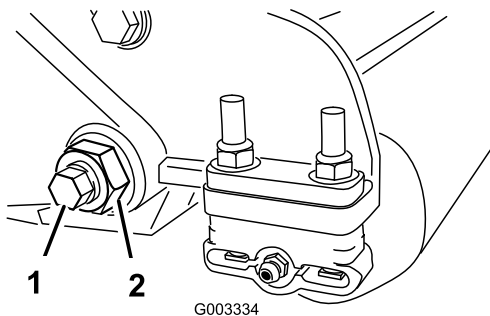
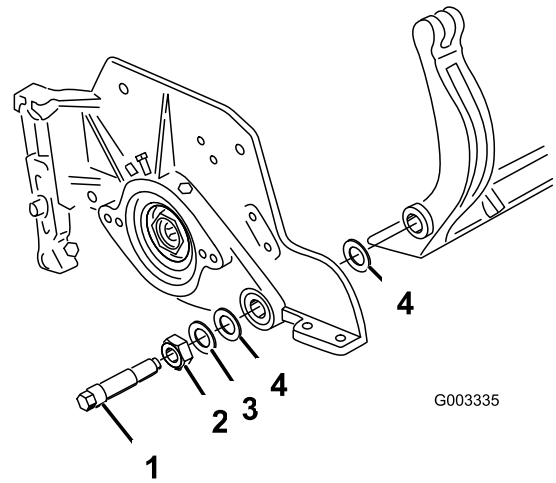

Figure 32
Figure 33
- On each side of the machine, loosen the lock nut securing the bedbar bolt (Figure 32).
- Remove each bedbar bolt allowing bedbar to be pulled downward and removed from machine bolt (Figure 32). Account for 2 nylon and 1 stamped steel washers on each end of bedbar (Figure 33).
- Secure bedbar to each side plate with bedbar bolts (nuts on bolts) and 6 washers. A nylon washer is to be positioned on each side of side plate boss. Place a steel washer outside each of the nylon washers (Figure 33). Torque bedbar bolts to 27-33 ft.-lb. Tighten locknuts until the outside steel washer stops rotating and end play is removed but do not overtighten or deflect side plates. Washers on inside may have a gap.